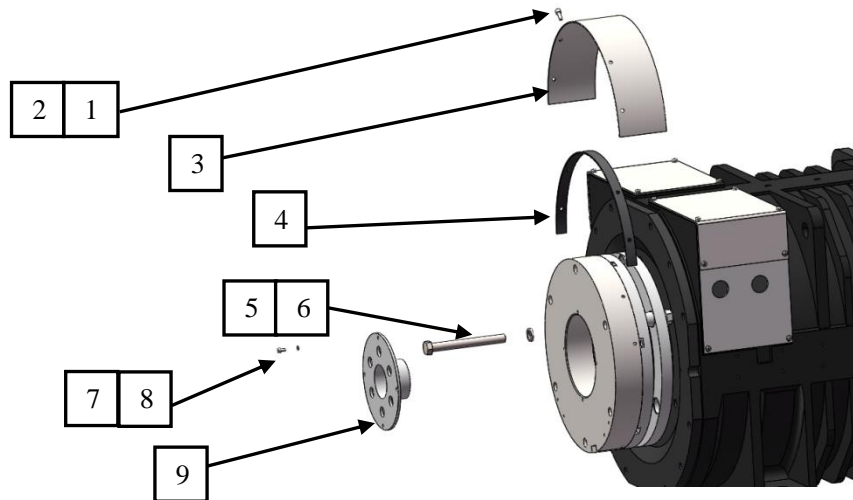

Figure 47: Normal Brake of TMGL2/TMGL2A Cover removal
2. Remove the screws M5x12 and washer⁵ (4 pieces) with hex wrench (4mm), and remove the 4 screws M6x16 and lock washer⁶ (4 pieces) with hex wrench (5mm), then remove the cover, dustproof ring and rubber ring. See Figure 47 and Table 6.